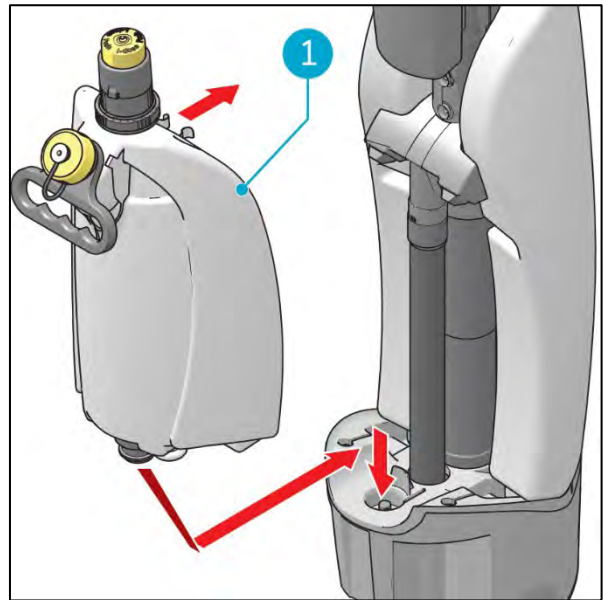

Figure 12
2. Put the cleaning solution tank (Figure 12, pos. 1) on the i-mop XL Pro with the valve first.